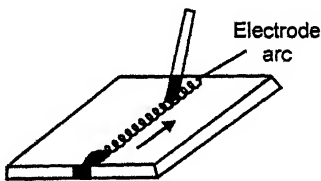

Fig. 13.20. Flat position.
**1. Flat position.** Refer to Fig. 13.20.